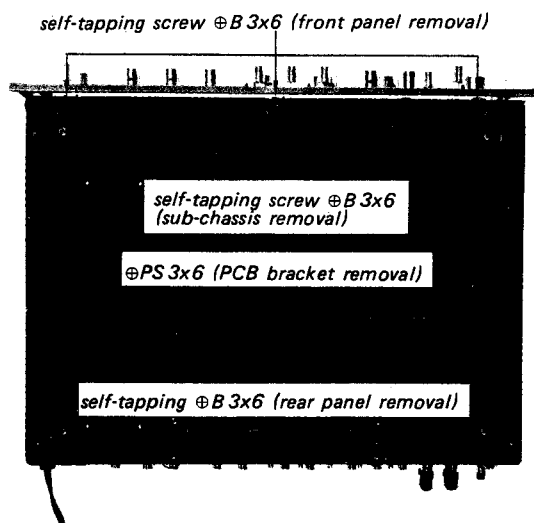
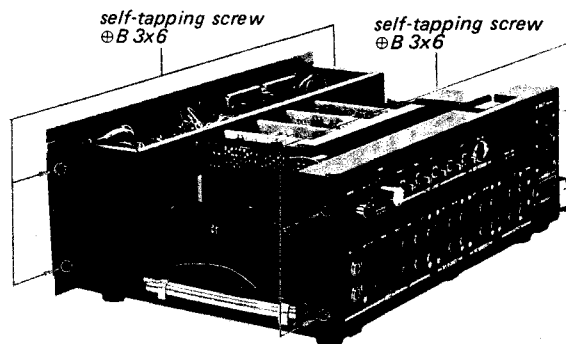

Fig. 2-4. Bottom view
Fig. 2-5. Front subchassis and rear panel removal
5. Remove the three self-tapping screws (\oplus B 3x6) at the front bottom of the chassis as shown in Fig. 2-4. This frees the front panel.
2. Remove the two self-tapping screws ($\oplus B 3 \times 6$) at each side of the chassis (see Fig. 2-5) and two self-tapping screws ($\oplus B 3 \times 6$) at the front bottom of the chassis as shown in Fig. 2-4. This frees front subchassis.
2. Remove the two screws (\oplus PS 3 \times 6) securing the PCB mounting bracket to the chassis from the bottom as shown in Fig. 2-4.
2. Remove the two self-tapping screws (\oplus B 3 \times 6) at each side of the rear panel as shown in Fig. 2-5.
3. Remove the two self-tapping screws (\oplus B 3 \times 6) at rear edge of the bottom as shown in Fig. 2-4. This frees the rear panel.